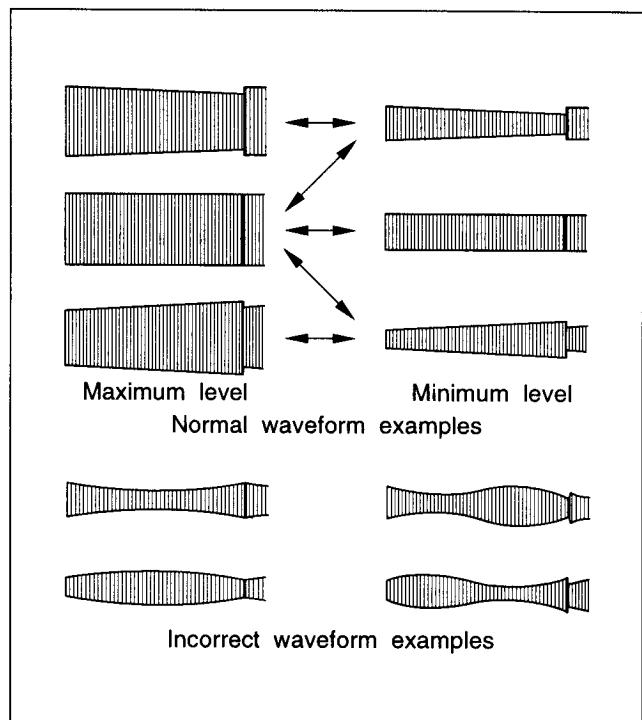

Fig. 2-7-1
- (1) Connect the oscilloscope to TP6(PB FM) on the PRE/REC board.Use TP11(D.FF) on the PRE/REC board as a trigger. Set to \ominus trigger slope of oscilloscope when MHP alignment tape is played back and set to \oplus trigger slope when MHP-L alignment tape is played back.
- (2) Playback the SP stairstep portion of the alignment tape [MHP].Confirm that the FM waveform appears as indicated in Fig.2-7-1.
- (3) Set the manual tracking position by simultaneously pressing the "-" and "+" tracking buttons.
- (4) Operate the tracking adjustment (press the tracking buttons during playback) and set for maximum playback FM waveform.
- (5) By operating the tracking button,vary the FM waveform from maximum to minimum and vice versa to confirm that the waveform varies nearly in a flat shape as shown in Fig.2-7-1.